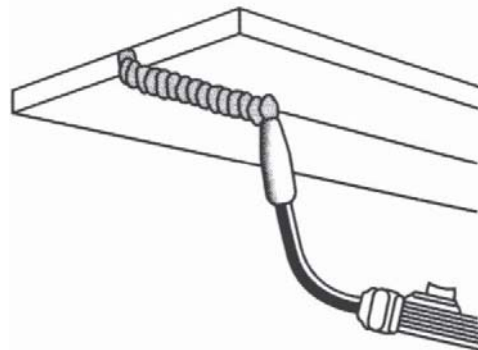

Figure 18. Overhead Position
4. The OVERHEAD POSITION (Figure 18) is the most difficult welding position because gravity is pulling at the weld puddle trying to make it drip off the work piece. Angle A (see HOLDING THE GUN - p.18) should be maintained at 60 degrees, the same as in the flat position. Maintaining this angle will reduce the chances of molten metal falling into the nozzle should it drip from the weld puddle. Angle B should be held at zero degrees so that the wire is aiming directly into the weld joint. If you experience excessive dripping of the weld puddle, select a lower heat setting. Also, the weave bead tends to work better than the stringer bead when welding overhead.